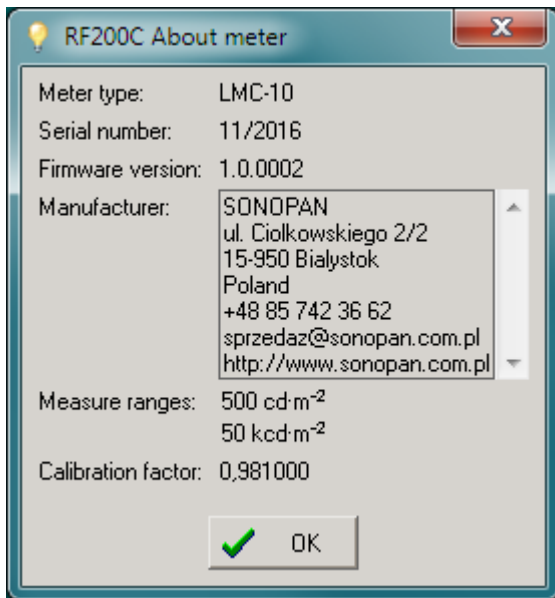

Fig. 2. View of the window containing information about the meter (with the attached LMC-10 probe).
- **About meter** - it opens the window with the basic data of the attached measurement probe (see Fig. 2).
The reason for the appearance of this indicator is marked red in the **About meter** window (see Fig. 2). The window can be open with the menu command (see Sec. 1.3.1.2) or with the direct click on the indicator 🌡️.